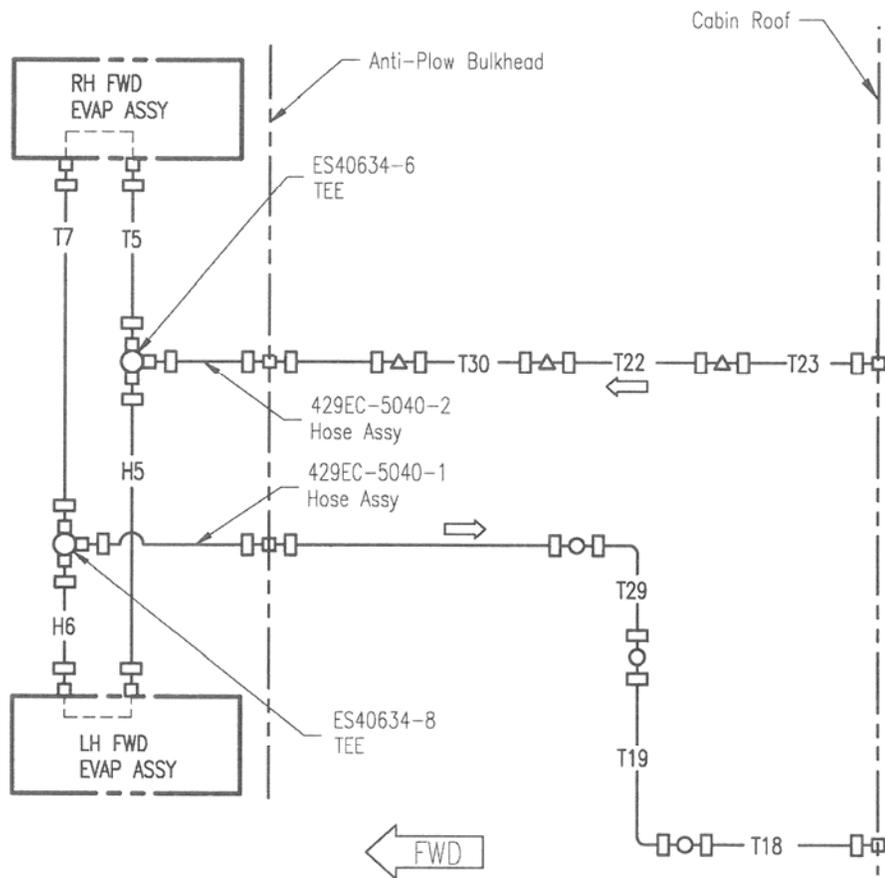

Figure 4: Dual Fwd Evaporator Plumbing Schematic
5. Remove and discard the following plumbing items between the forward evaporators and the bulkhead, see Figure 4: